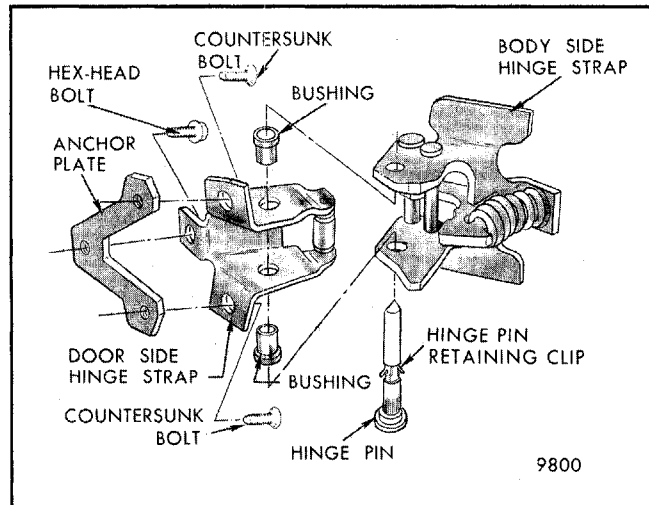

Fig. 5-92-Door Hinge Components - H Styles
equivalent) as shown in Figure 5-92. Install retaining clip by sliding over end of hinge pin to retaining notch.
NOTE: Weld-on hinges cannot be reinstalled. A new service replacement door side hinge strap with bolt-on provisions must be installed (Fig. 5-92).
To restore acceptable structural integrity when installing replacement hinges, it is necessary to use tapped anchor plates instead of nuts and washers. Anchor plates, bolts, bushings, hinge pins, hinge pin retainers and door side and body side hinge straps are available separately (Fig. 5-92).
6. Coat hinge surface that mates with the hinge pillar with medium-bodied sealer. Install hinge strap using two countersunk bolts, (part no. 7667647 or equivalent), one hex-head bolt, (part no. 8746511 or equivalent), and one anchor plate, (part no. 9840410 or equivalent) as shown in Fig. 5-92. Tighten hinge bolts to 17 to 22 ft-lb.